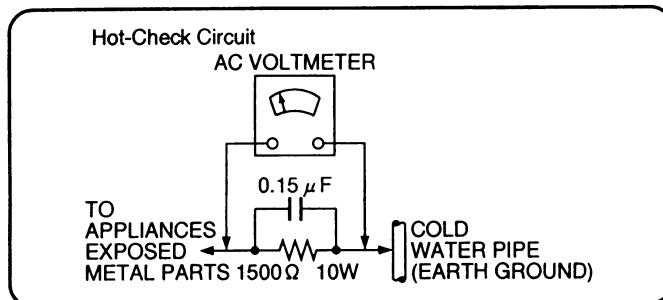

Figure 1
LEAKAGE CURRENT HOT CHECK (See Figure 1.)
- Connect a $1.5k\Omega$, 10 watts resistor, in parallel with a $0.15\mu F$ capacitors, between each exposed metallic part on the set and a good earth ground such as a water pipe, as shown in Figure 1.